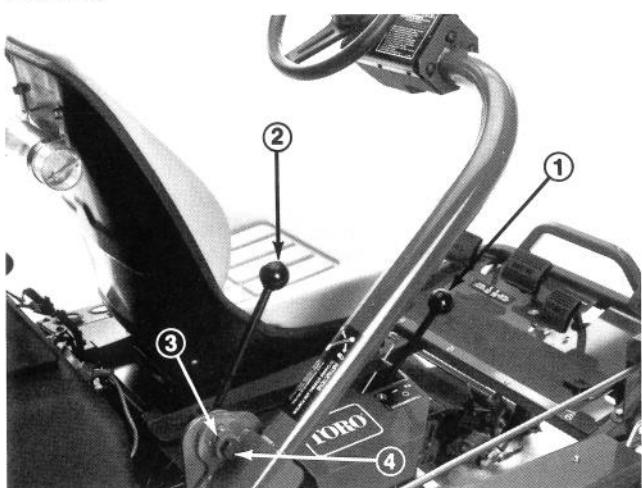

Figure 17
SHIFT SELECTOR (Fig. 17) – Located on the top of the right hand panel. Provides two (2) traction selections, plus a "NEUTRAL" position. It is permissible to shift from one selection to another while the Greensmaster 3100 is in motion. No damage will result.
STEERING ARM LOCKING LEVER (Fig. 17) – Rotate lever rearward to loosen adjustment, raise or lower steering arm for operator comfort, then, forward to tighten adjustment.